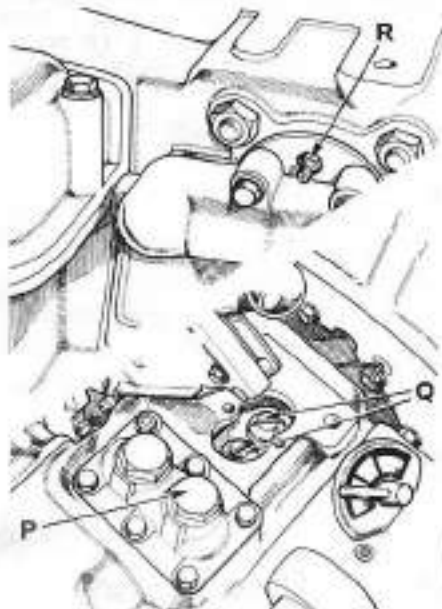

Fig. 281—View showing bleeding points for hydraulic system; refer to text for procedure.
Remove plate from rear axle housing to expose the hold and by-pass valve plunger plugs (Q-Fig. 281). Start engine and, on 885 and 995 models loosen plug (P) in axle housing plate. Pull control lever fully rearward against spring pressure and hold in this position until oil free of any air bubbles runs from loosened plug, then push lever forward and tighten plug. On all models, loosen hold and by-pass valve plugs (Q) and pull control lever fully rearward against spring pressure until flow of bubble free oil is obtained, then push lever forward and tighten plugs. Loosen the ram cylinder bleed plug and again pull control lever fully rearward against spring pressure. When lift linkage is fully raised and bubble free oil is running from bleed screw, tighten the screw. Note that the ram cylinder bleed screw has the appearance of a grease fitting.